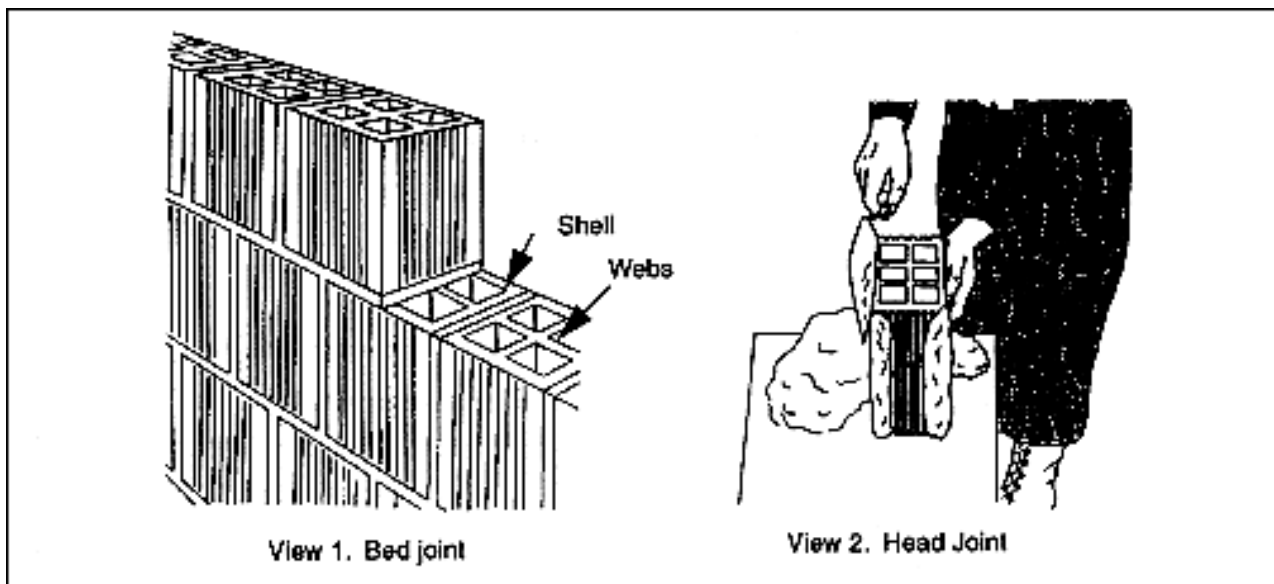

Figure 9-51. Laying end-construction clay tile
- Bed joint. To make a bed joint, spread 1 inch of mortar on the bed tile shells, but not on the webs (see view 1 of Figure 9-51 below). Spread the mortar about 3 feet ahead of laying the tile. Because the head joints in clay-tile masonry are staggered, the position of a tile in one course does not match the tile underneath it. Therefore, the webs do not make contact, and any mortar you spread on them is useless.
- Head joint. Form the head joint by spreading plenty of mortar along each tile edge, as shown in view 2 of Figure 9-51. Because a clay tile unit is heavy, use both hands to push it into the mortar bed until it is properly positioned. The mortar joint should be about 1/2 inch thick, depending upon the type of construction. Use enough mortar that it squeezes out of the joints, and then cut the excess off with a trowel. The head joint need not be solid like a head joint in brick masonry, unless it is subject to weather.